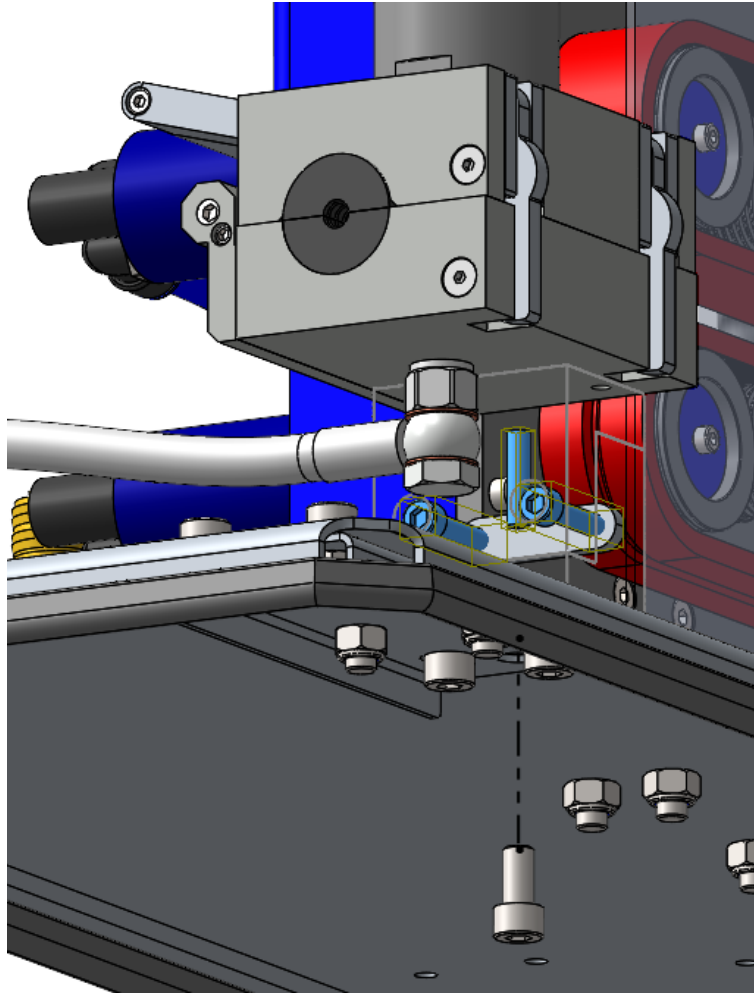

Fig. 10b Height adjustment components on the BDJ NEXT
- Loosen the two screws that clamp the head support (marked in blue in Fig. 10b).
- The hole from which the screw was inserted contains a lower adjustment pin that can be used to adjust the head position (marked in blue in Fig. 10b).